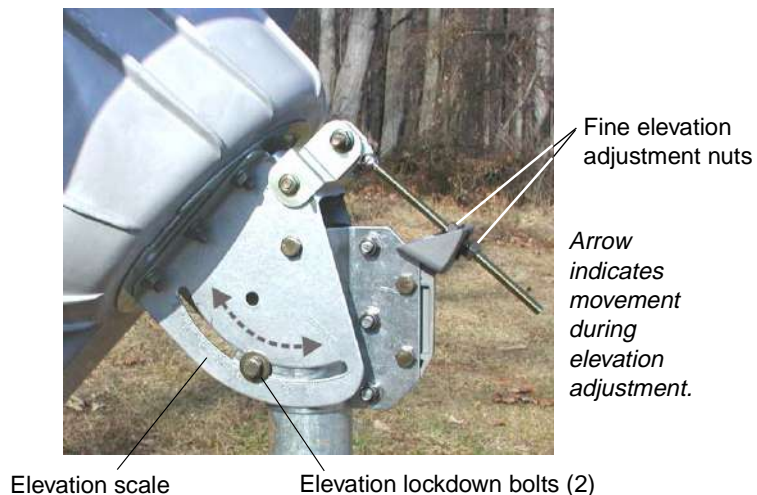

Figure 49: Setting coarse elevation
1. Loosen the two fine elevation adjustment nuts indicated in Figure 49 so the antenna reflector can move forward and backward.
2. Loosen the two elevation lockdown bolts indicated in Figure 49, a little at a time, until you can rotate the antenna reflector forward and backward to adjust the elevation.